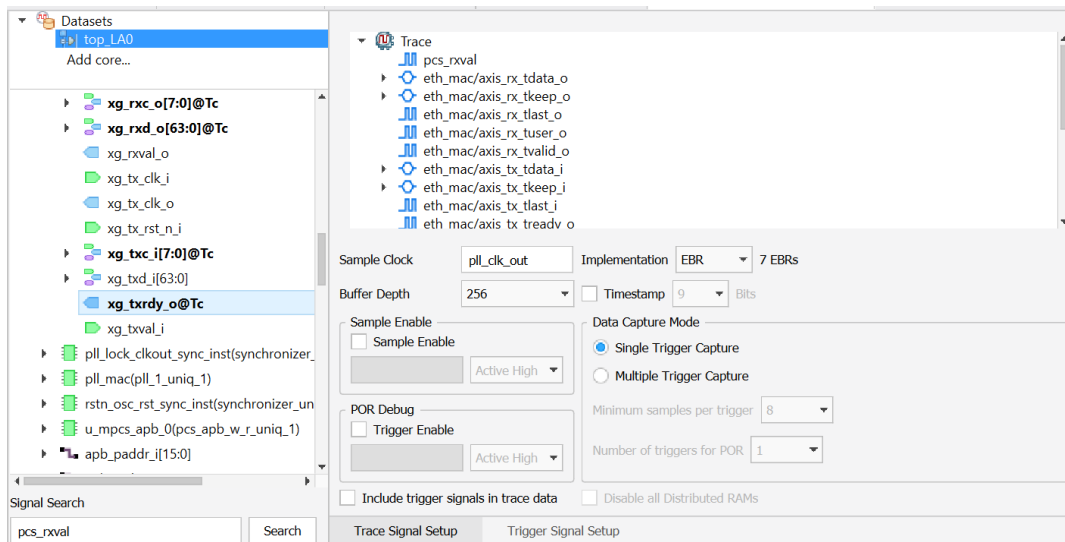

Figure 7.14. Trace Signal Setup
3. In the debug file, set up the trace signals by dragging the signals into the Trace Signal Setup Tab, as shown in Figure 7.14. Remember to put in the Sample Clock based on the clock driving the trace signals. However, in designs with multiple clock regions, it may be necessary to sample different clock regions at the same time. For those types of designs, it is recommended that you create multiple cores, one for each clock region where the clock is used as the sample clock for the core.